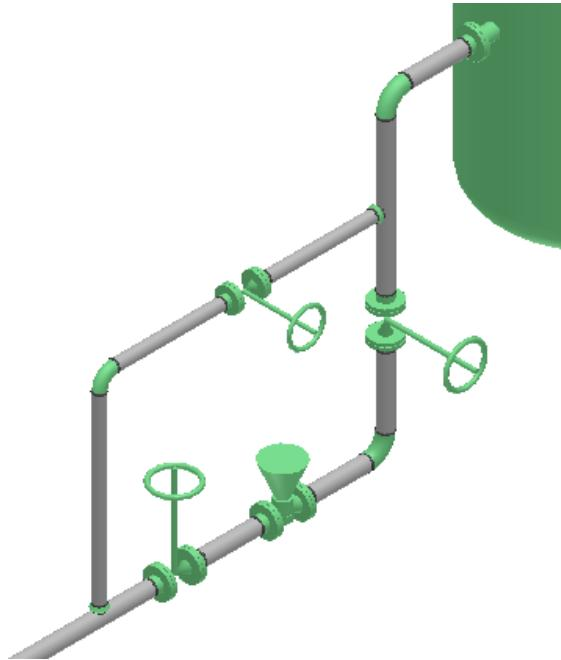

Figure 7.45: Placed Instrument
26. Click **Finish** on the **Insert Component** ribbon to place the instrument, as shown in Figure 7.45.